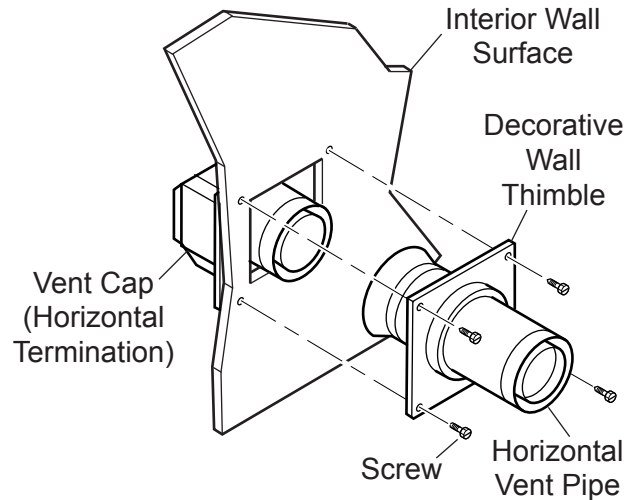

Figure 18 - Connecting Vent Cap with Horizontal Vent Pipe
5. Slide the wall thimble over the vent pipe before connecting the horizontal run to the vent cap. See Figure 18.
7. Slide the wall thimble against the interior wall surface and attach with screws. See Figure 18.